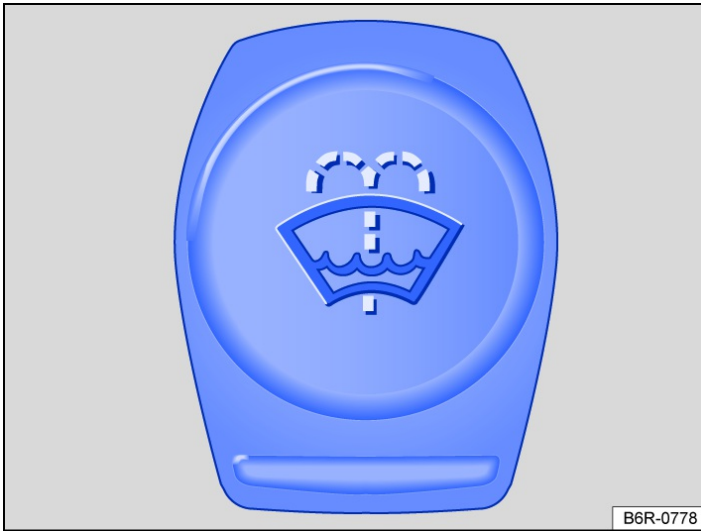

Fig. 1 In the engine compartment: cap of washer fluid reservoir.
- The washer fluid reservoir is identified by the 🚿 symbol on the cap → *Fig. 1*.